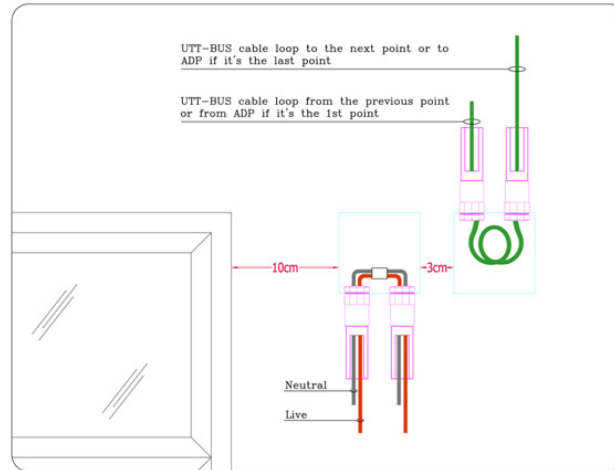

Figure1.3.11: Shade & Curtain Connections
- Two back boxes with blank plates should be provided at the top right side of all windows at the curtain location (10-20 cm away from the window frame) as in Figure1.3.11. As a suggestion, creating a curtain box helps hiding the back boxes.